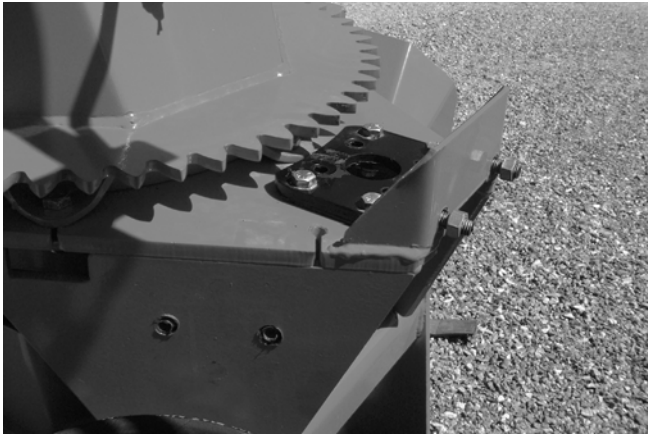

Figure 23
- 2) Install the mounting plate; put the required spacers between mounting plate and base of chute (see p. 33 to 40 for chute model). Do not tighten the bolts immediately, they will be tightened at final adjustment (Fig. 23).